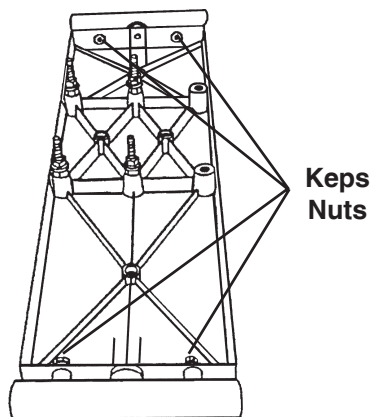

Figure 95
2. If the Extension Table's Tube is not aligned with the Worktable's Tube, use a 7/16" Wrench to slightly loosen both Keys Nuts attaching the Tube to the Extension Table. Make the needed adjustments, then retighten the Nuts. See Figure 95.